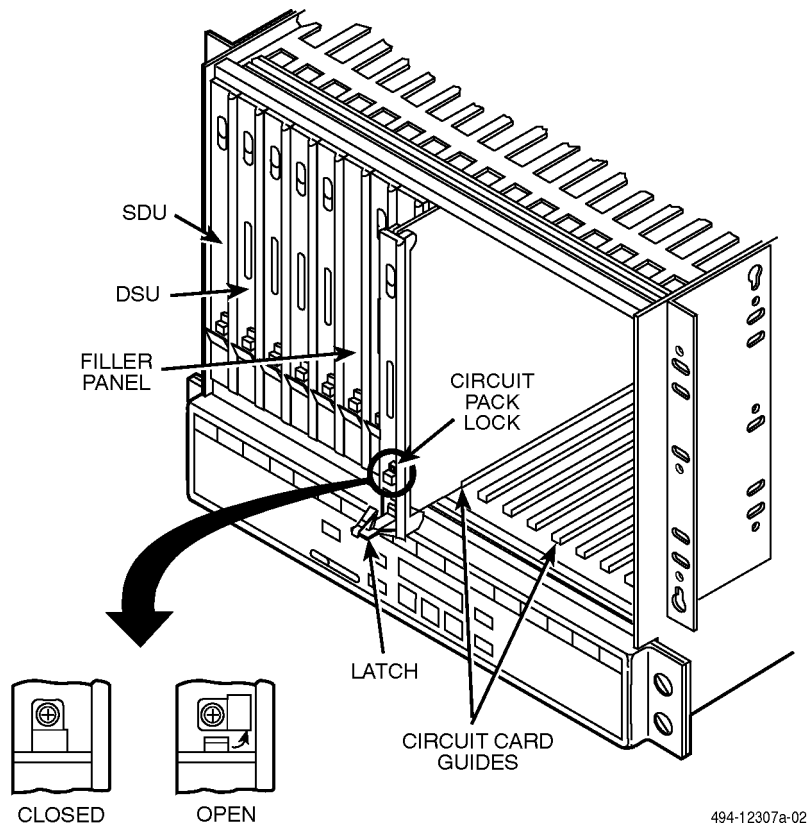

Figure 4-4. Model 3511 DSU Installation and Circuit Pack Lock
4. Using a Phillips screwdriver, loosen the screw holding the circuit pack lock that secures the DSU's latch, and rotate the lock to the open position (Figure 4-4). Open the latch.
5. At the front of the carrier, hold the DSU vertically with the latch on its faceplate in the open position. Then, insert the circuit card into the top and bottom circuit card guides for the slot that contains the rear connector plate (see Figure 4-4).
7. Press the faceplate latch to secure the DSU in the carrier, rotate the circuit pack lock into the closed position, and tighten the screw (Figure 4-4).
1. Using a Phillips screwdriver, loosen the screw holding the circuit pack lock, and rotate the lock to the open position (Figure 4-4). Open the latch.